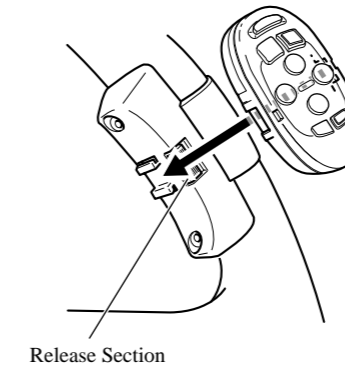

Fig. 18
**4. Install the remote control unit in the holder. (Fig. 18)**